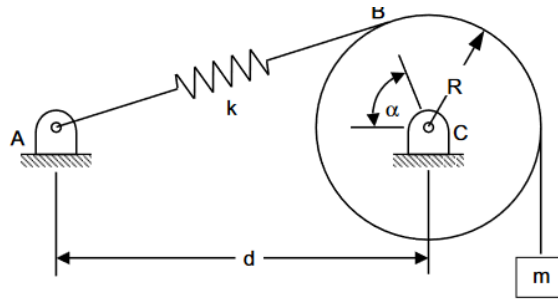

Figure. 2
- In figure 2, the spring is un stretched when $\alpha = 0$ and k is the spring constant. Write a MATLAB program to compute and plot the mass m corresponding to equilibrium as a function of α for values of α from 0° to 90° . Find the value of α corresponding to equilibrium $m=2.5\text{kg}$. Given $R = 210 \text{ mm}$, $d = 50 \text{ mm}$ and $k = 1.2 \text{ kN/m}$.